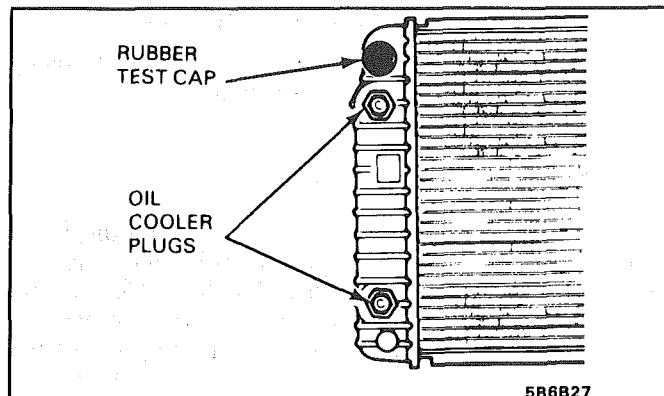

Fig. 11 Aluminum Radiator and Oil Cooler Plugs
1. Install test fittings or rubber test caps in the inlet and outlet necks and seal the oil cooler fittings with metal plugs to protect the cooler and keep the fluid from running out (Fig. 11).